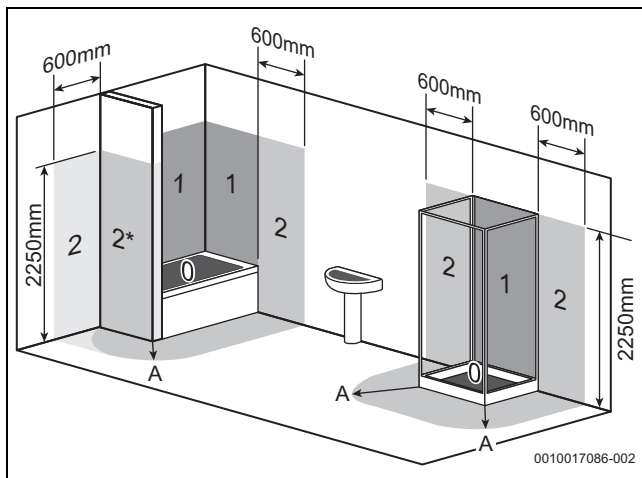

Fig. 17 Bathroom installations
- Figures 17 and 18 are for guidance only.